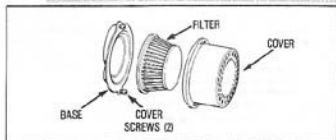
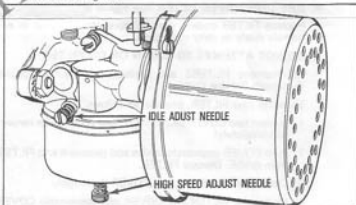

Figure 5
Figure 8
Your engine may be equipped with a DRY TYPE PAPER FILTER as in Figure 5 or a FOAM TYPE FILTER as in Figure 8. Proceed with the following applicable Instruction A or B depending on type of filter:
A. DRY TYPE PAPER FILTER (see Figure 5)
- ① **CARBURETOR ADJUSTMENTS** (see Figure 8)